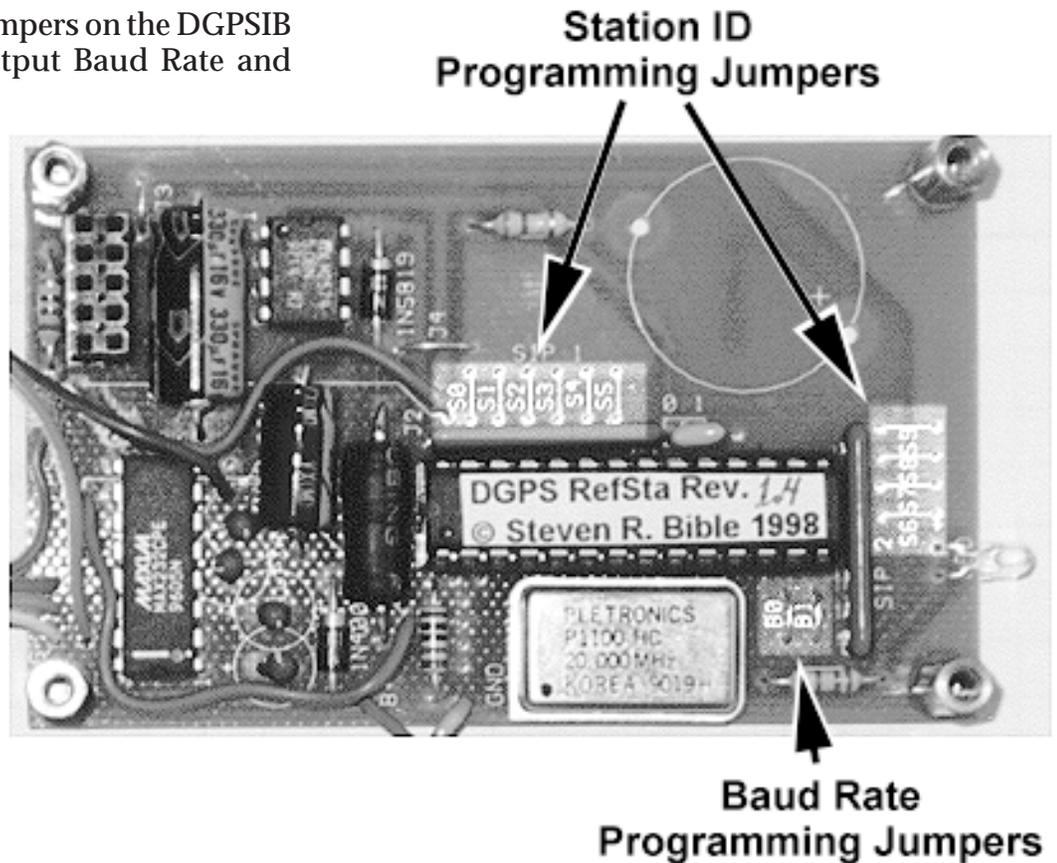

Figure 2. Location of Programming Jumpers
(Refer to Figure 2)
**Setting the Station ID** (Refer to Figure 2)